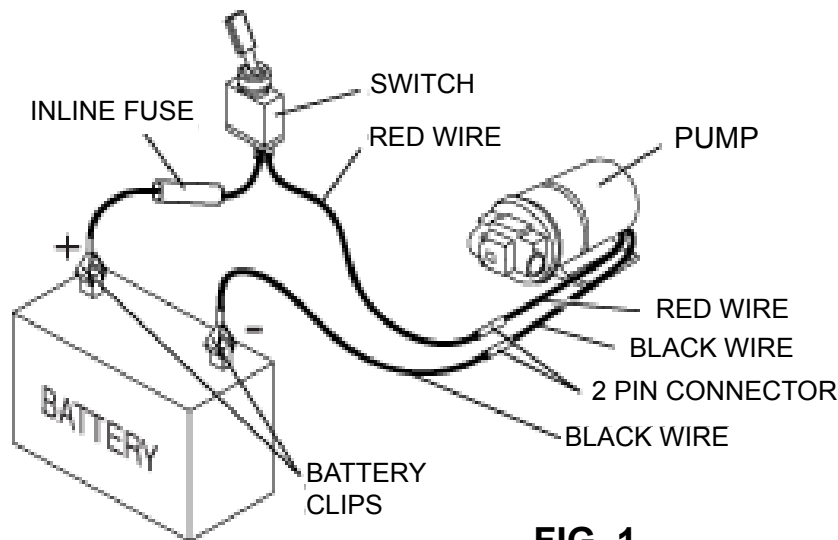

FIG. 1
1. Use Fig. 1 as a guide to connect the pump to the wiring harness.